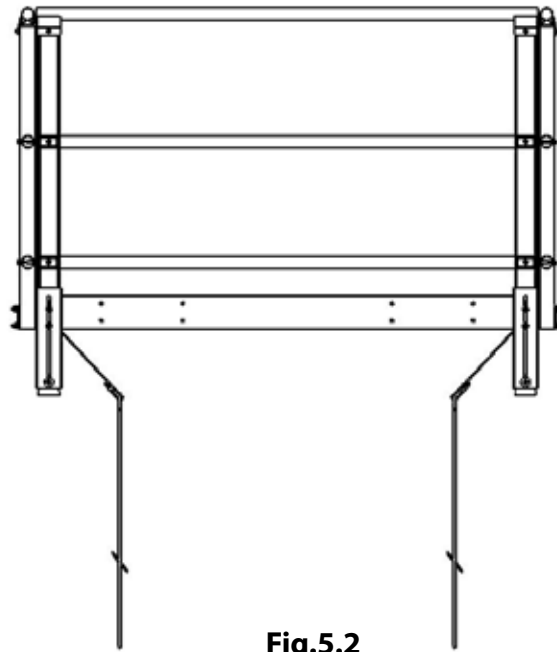
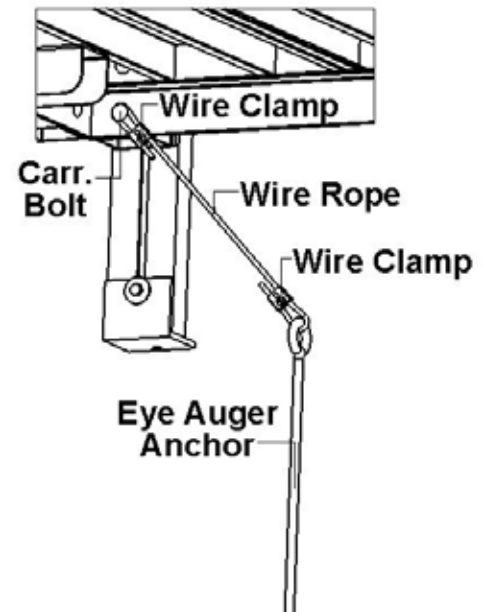

Fig.5.2
Fig.5.3
**5.1 Hurricane Tie down Kit (Platforms):** The field conditions will determine the location of the tie downs. Generally the anchors should be installed opposite from one another. The PVI Modular Ramp System will have to be fully assembled and installed to determine the exact anchor locations; it may be necessary to temporarily reposition components to install the anchors. For platforms an anchor needs to be installed at each corner, by loosening the lower carriage bolt at the corner post location. Run the wire rope through the wire clamp to form a loop, place the loop around the head of the carriage bolt securing the wire rope between the carriage bolt and platform, cinch wire rope and retighten hardware. Install the auger into the ground as vertical as possible, using a ½" steel rod or similar item to screw the anchor into the ground. Turn anchor into ground until only the eye is exposed (**Fig.5.2**). Run the wire rope through the wire clamp, and the eye of the anchor forming a loop through the anchor run wire rope back through the wire clamp (**Fig.5.3**). Pull wire rope tight and tighten the screws in the wire clamp. Cut off excess wire. Tape off the ends of the wire rope to ensure the wire will not fray, using electrical tape.